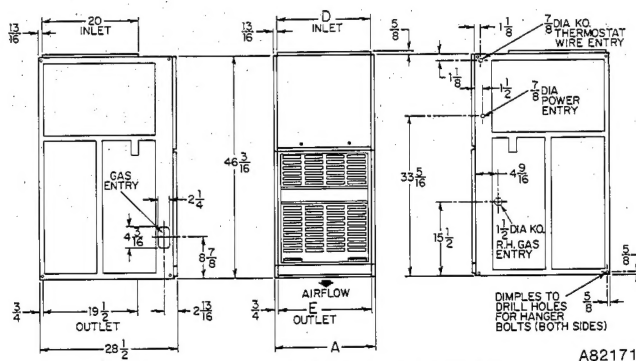

Figure 3—Dimensional Drawing
- See Figure 3 for dimensions and location of supply-air opening in furnace bottom.
The 376B Furnace can be installed horizontally with either the LH or RH side up. In a crawl space, the furnace can either be hung from the floor joist or installed on suitable blocks or pad. The furnace can be suspended from each corner by hanger bolts (Four each 3/8-in. all-thread rod) cut to desired length, 1 x 3/8 flat washer, 3/8 lockwasher, and 3/8 nut. Dimples are provided for hole locations. See Figure 3.